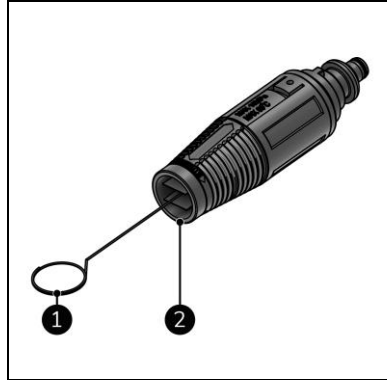

Figure 18
3. Remove the nozzle (Figure 18, pos. 2) from the extension lance (Figure 5, pos. 2).
4. Clean the nozzle with the cleaning pin (Figure 18, pos. 1).